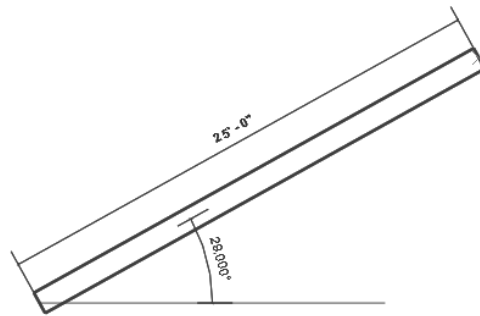

Figure 3-27 The angle and temporary dimensions are displayed on the wall being sketched
- e. Invoke the **Line** sketching tool and then sketch the exterior walls based on the given parameters, refer to Figures 3-27 through 3-35.
3. Right click in the drawing area; a shortcut menu is displayed. Choose the **Zoom In Region** option from the shortcut menu and zoom into the area to get a closer view of the sketched wall segment, as shown in Figure 3-27 (for zooming techniques, see Chapter 2- Getting Started with Revit Architecture).